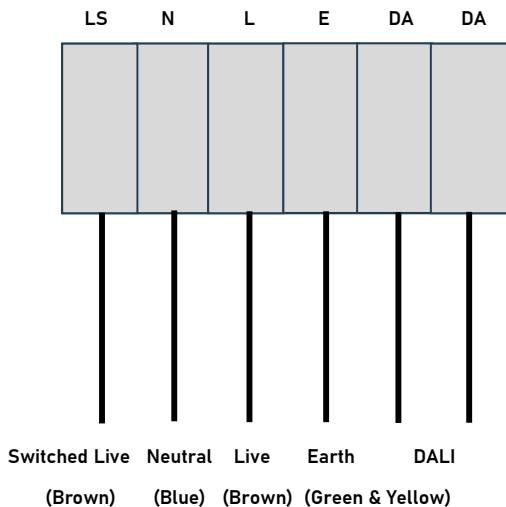

Fig. 2
- Connect the luminaire to the mains supply ensuring the correct polarity is observed (see Fig. 2):